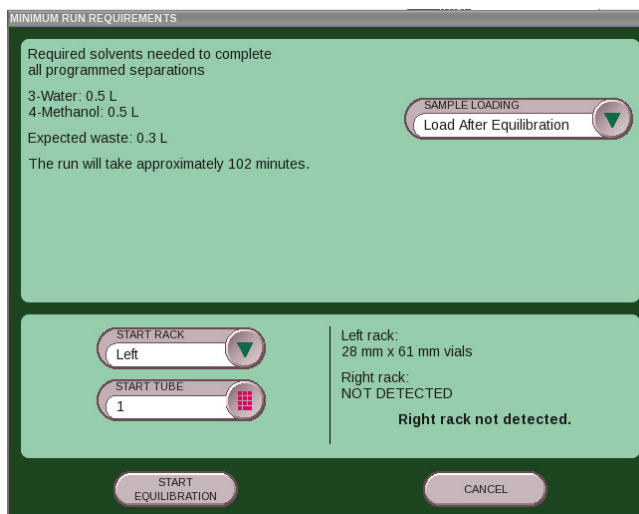

Figure 5: Load after Equilibration option
- b. Load after Equilibration (Figure 5)